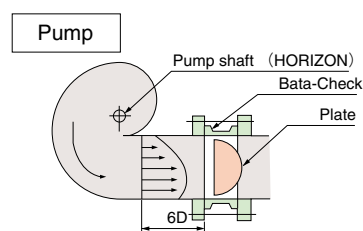

Fig.7
- When installing a Bata-Check valve at the outlet from a pump, leave a space of at least 6 times the valve diameter (6D) between the valve and pump. Also, make sure that both plates are stressed evenly by the flow. (Fig. 7)